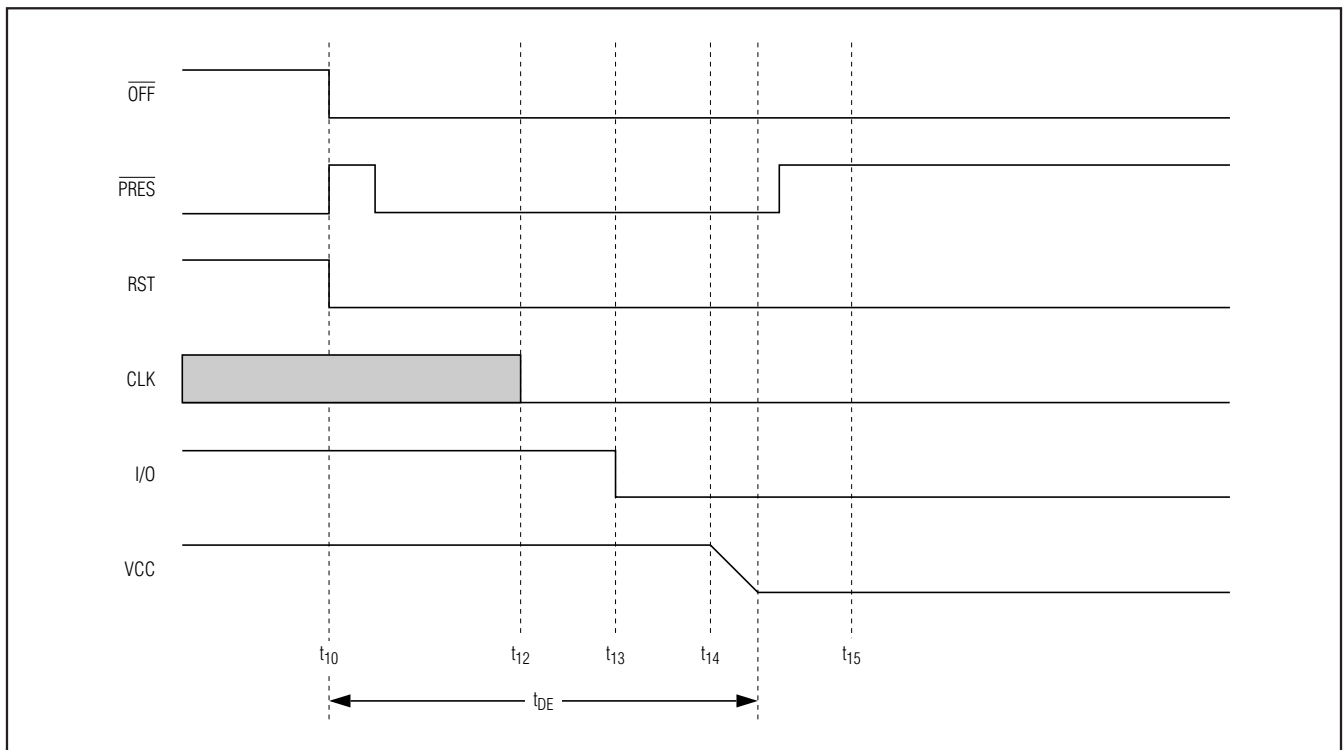

Figure 7. Emergency Deactivation Sequence (Card Extraction)
- **CMDVCC Low Within a Card Session.** Output  $\overline{\text{OFF}}$  goes low when a fault condition is detected, and an emergency deactivation is performed automatically (Figure 7). When the system controller resets CMDVCC to high, it may sense the  $\overline{\text{OFF}}$  level again after completing the deactivation sequence. This distinguishes between a card extraction and a hardware problem ( $\overline{\text{OFF}}$  goes high again if a card is present). Depending on the connector's card-present switch (normally closed or normally open) and the mechanical characteristics of the switch, bouncing can occur on the PRES signals at card insertion or withdrawal.